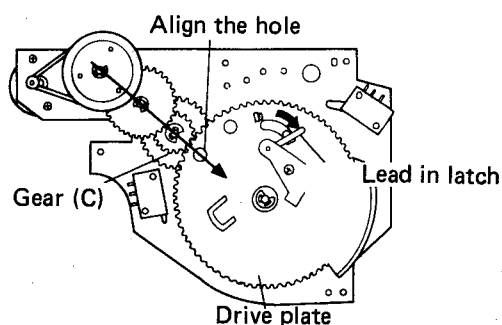

Fig. 1-31 Mounting the mechanism base 1
1. With the lead-in latch of the mechanism base ass'y open, align the hole in the drive plate with the gear (see Fig. 1-31).